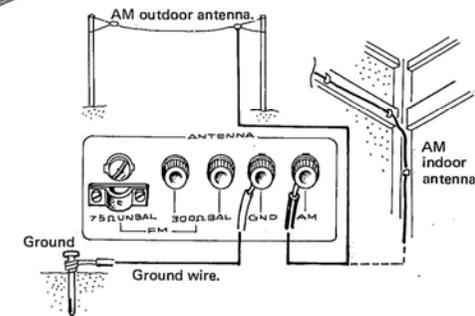

Fig. 7
**AM indoor antenna:** A single strand vinyl insulated wire 6-8m in length should be connected at one end to the AM antenna terminal on the rear of the receiver, and the other end suspended at an elevated point as shown in Fig. 7.
**AM outdoor antenna:** If reception is still poor with use of the indoor antenna, an outdoor antenna may be erected using single strand vinyl insulated wire, as shown in Fig. 7.